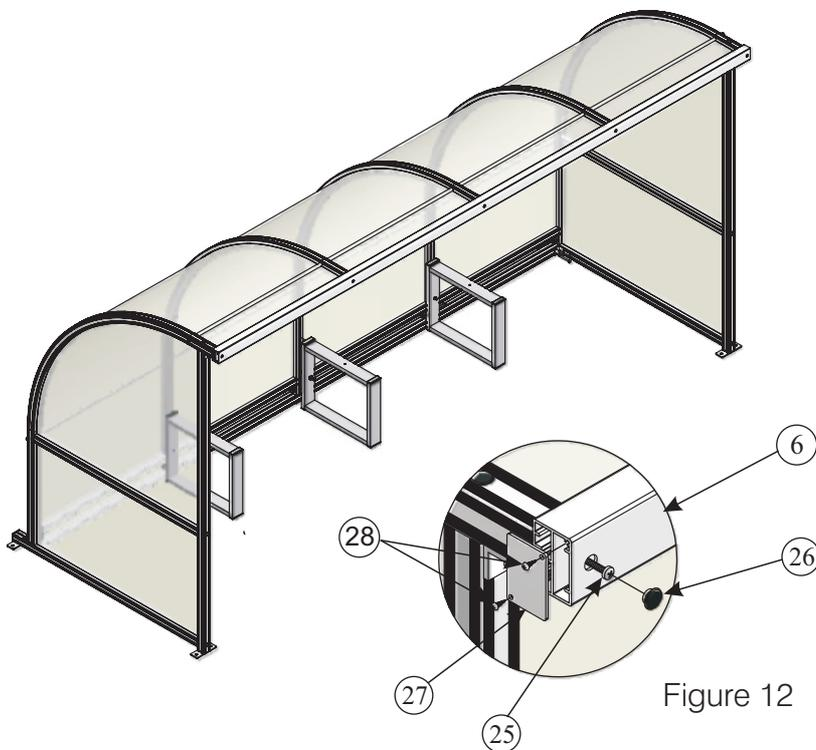

Figure 12
7.) Once all the plastic is in place the crossbar (6) needs to be fixed into position. Attach the crossbar using the self tapping screws (25) by locating the holes in the crossbar and lining those holes up with the screw port in the extrusion in the bent supports. It is best to screw in the end screws first so that the crossbar is supported at both ends. You then need to tighten up the middle 3 screws gradually as the crossbar pulls onto the face of the bent supports. *You will need a 10mm deep drive socket/FAS005 (30) for this.* When doing so make sure the PET sheets are lined up to fit into the recess of the crossbar. This is important as this will hinder the screws from pulling into the supports.
When the crossbar is fitted tightly you can finish it off by inserting the round caps (26) into the front of the crossbar and the end caps (27) in either end of the crossbar by using the 10g self tapping screws (29) (Figure 12).